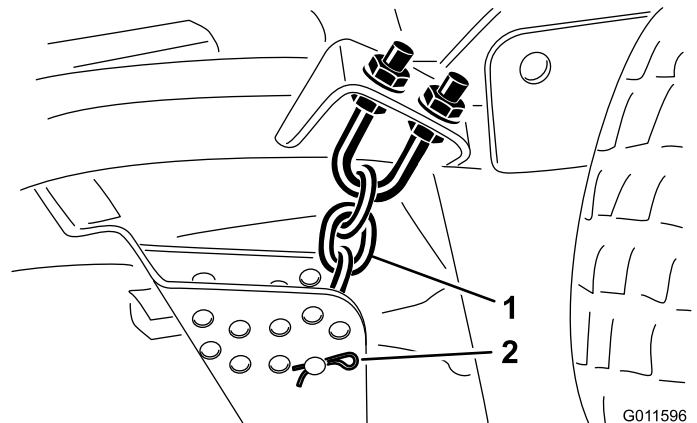

Figure 3
1. Remove hair pin cotters and clevis pins securing height-of-cut chains to rear of deck (Figure 3). Retain hair pin cotters and clevis pins for installation on new front deck.